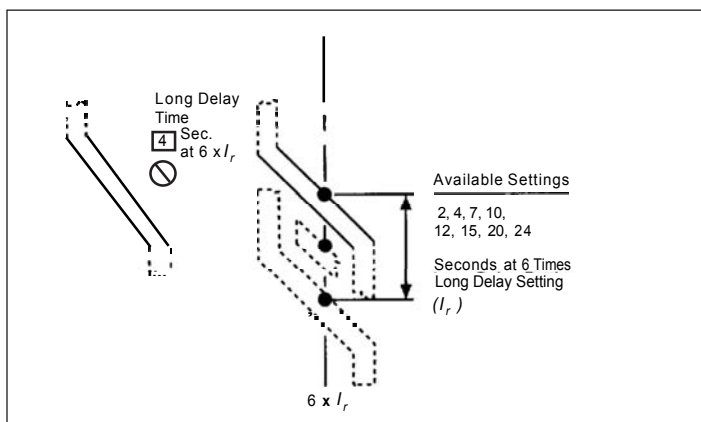

Figure 12. Long Delay Time Settings.
There are eight (8) available Long Delay Time Settings, as illustrated in Figure 12, ranging from 2 to 24 seconds. These settings are the total clearing times in seconds, when the current value equals six (6) times I_r . The (LS) Time-Current Curve applicable for your circuit breaker gives complete details (see Section 5).